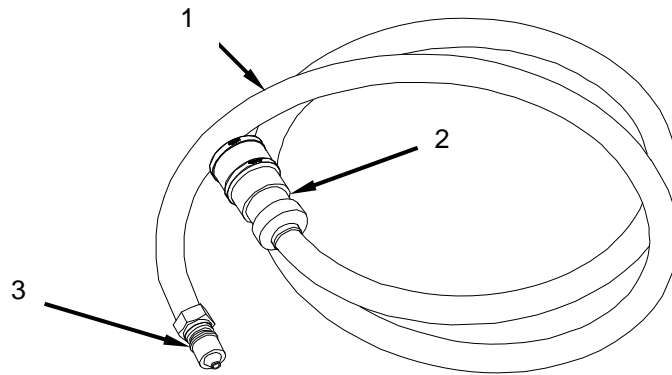

Figure 2. Inspect Fuel Hose.
1. Inspect fuel hose (Figure 2, Item 1) for signs of deterioration and cracks.
2. Inspect the female quick disconnect (Figure 2, Item 2) for signs of damage. Also check that the outer collar pulls back freely but returns to place under spring tension.
3. Inspect the male quick disconnect (Figure 2, Item 3) for signs of damage. Also check the nipple is secure and it is held in place by spring tension.